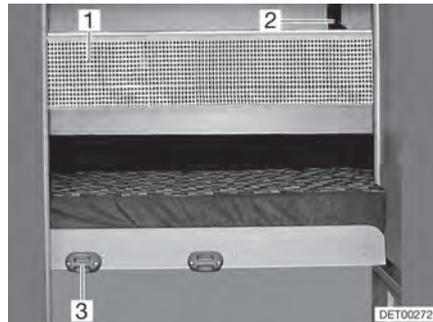

Fig. 79 Safety net
- Attach the access ladder with the rails to the holder (Fig. 79,3) on the panel.
Safety net The safety net (Fig. 79,1) is stored as standard between the mattress and slatted frame. Do not use the safety net until the person is already in bed.
- Fasten the retaining straps (Fig. 79,2) to the holders on the ceiling.